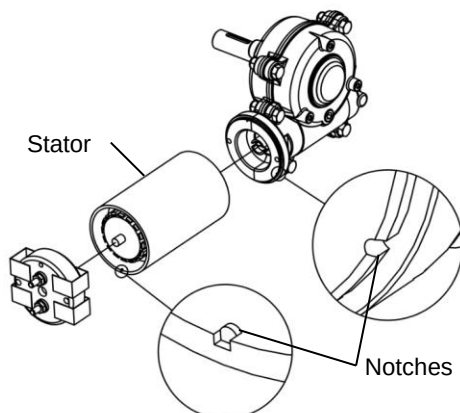

Figure 8
6. **Figure 8.** Install the stator with the gearbox and ensure the notches are well aligned.